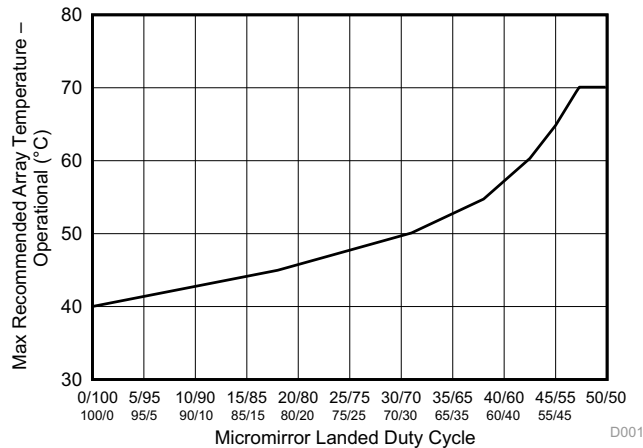

Figure 1. Maximum Recommended Array Temperature – Derating Curve
- (13) Per Figure 1, the maximum operational array temperature should be derated based on the micromirror landed duty cycle that the DMD experiences in the end application. Refer to *Micromirror Landed-On/Landed-Off Duty Cycle* for a definition of micromirror landed duty cycle.
- (14) Long-term is defined as the usable life of the device
- (15) Short-term is the total cumulative time over the useful life of the device.